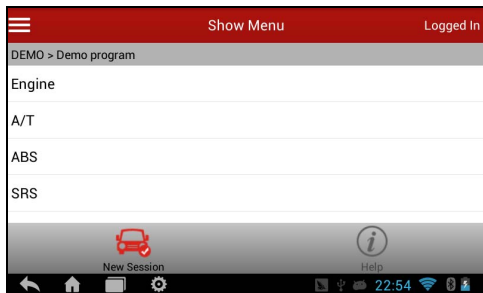

Fig. 5-11
4. Tap “Demo” to enter system selection interface, indicated as Fig. 5-11.